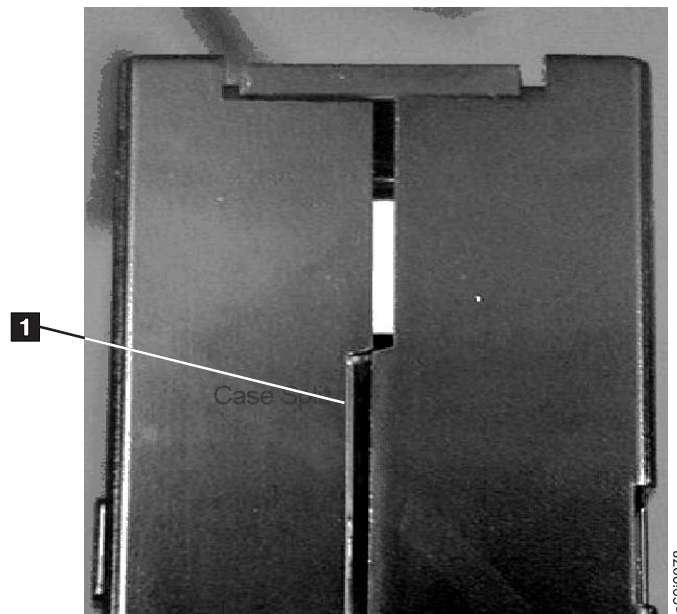
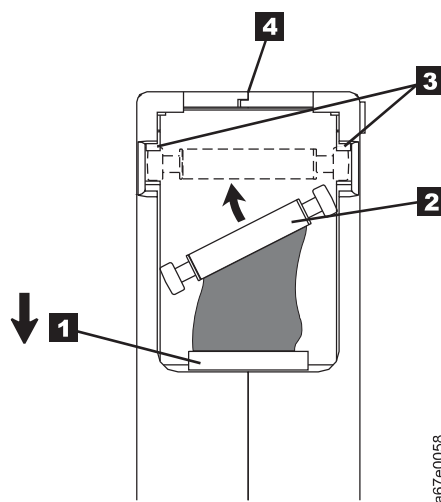

Figure 6-7. Checking for gaps in the seams of a cartridge
Figure 6-9. Placing the dislodged leader pin into the correct position. The cartridge door is open to show the leader pin.
- Inspect the rear of the cartridge (the part that loads first into the tape load compartment) and ensure that there are no gaps in the seam of the cartridge case (see **1** in Figure 6-7 on page 6-10 and **4** in Figure 6-9 on page 6-12). If there are gaps in the seam (see Figure 6-7 on page 6-10), the leader pin may be dislodged. Go to “Repositioning or Reattaching a Leader Pin” on page 6-11.
Example: Split Cartridge Case (see Figure 6-7)
1. Slide open the cartridge door (**1** in Figure 6-9) and locate the leader pin (**2** (you may need to shake the cartridge gently to roll the pin toward the door).